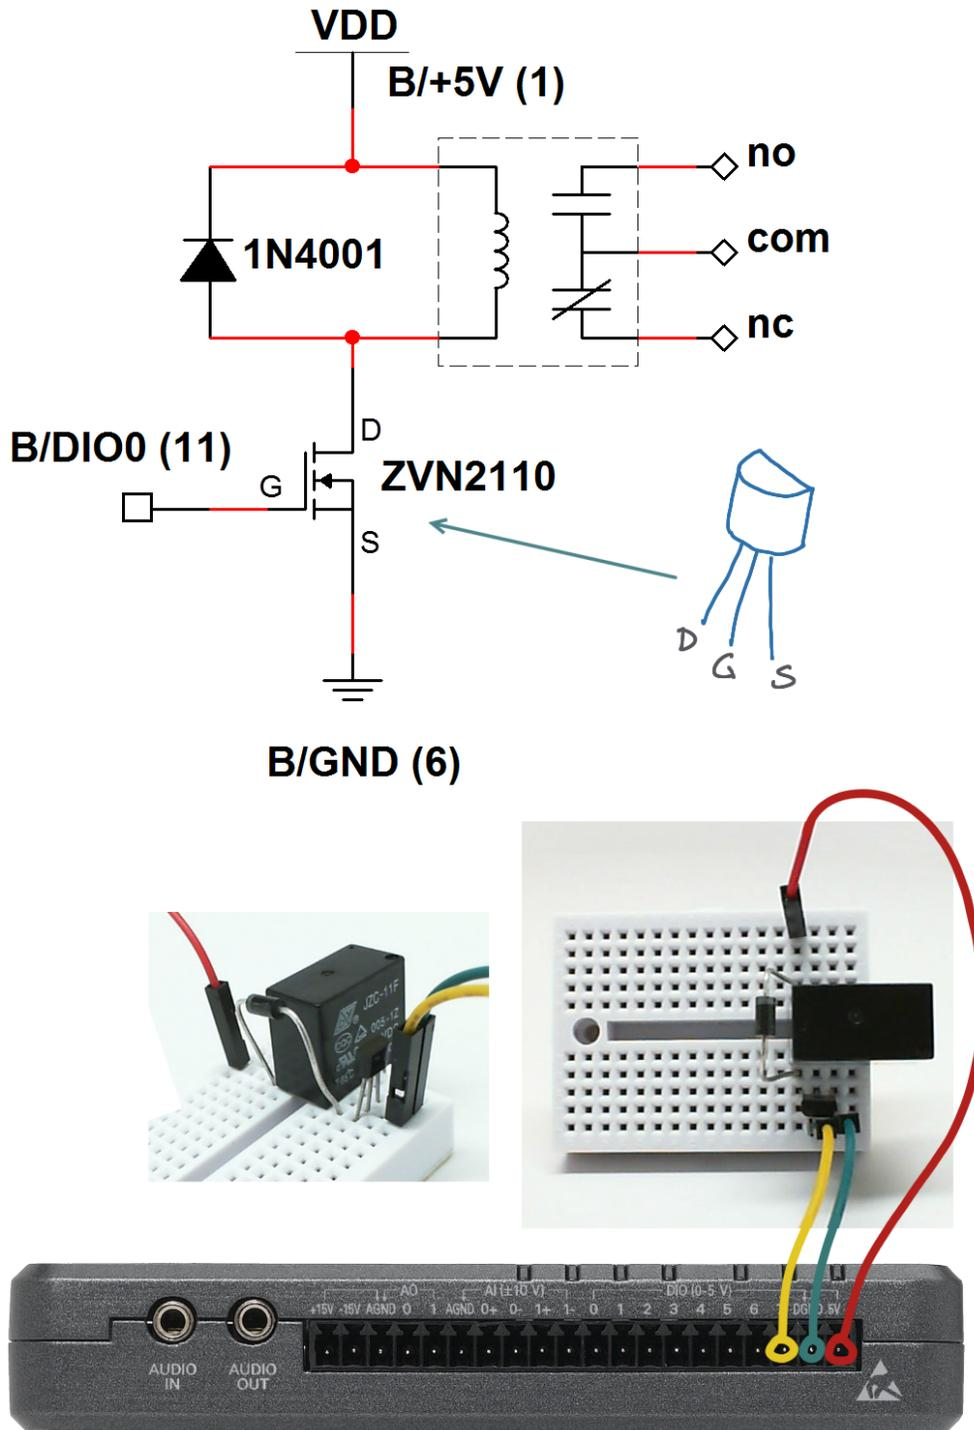

Figure 6.3: Relay interface circuit suitable for internal pull-down resistors on NI myRIO MSP Connector C.
- Build and test the interface circuit for a relay controlled from the MSP connector; see Figure 6.3 on the next page. Select C/DIO7 (pin 18) as the relay control line on the myRIO DIO channel front-panel control. Power the circuit from the MSP connector with C/+5V (pin 20) and the digital ground C/DGND (pin 19).